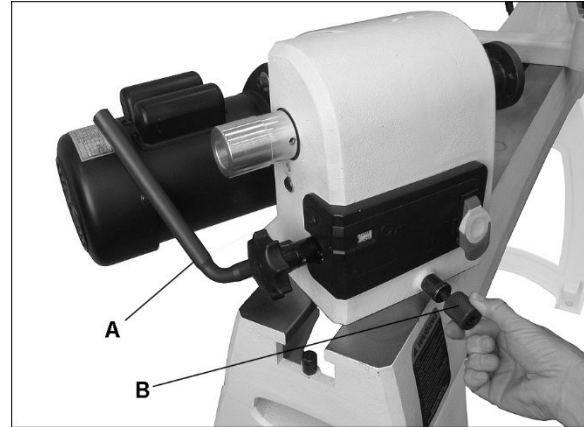

Figure 9
Push handle (A, Figure 9) toward motor to unlock. Headstock will slide freely along the length of the bed. Retighten handle before operating lathe.
1. Loosen handle (A, Figure 9).
2. Unscrew the knurled knob (B) counter-clockwise until it can be pulled outward.